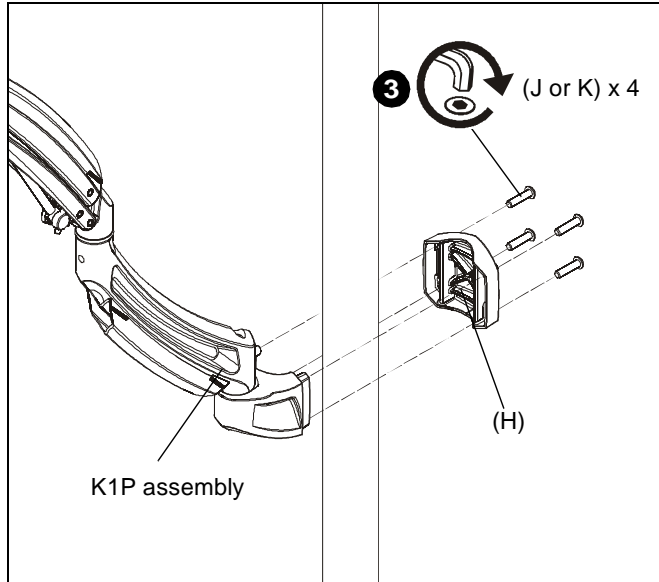

Figure 7
2. Place mount (A) against pole with clamp (H) on opposite side of pole. (See Figure 7)
3. Using 5/32" hex key (L) and appropriate length screws, loosely attach K1P assembly to pole clamp (H). If installing to 1 1/2" NPT pipe, use 1/4-20 x 1 1/2" button head cap screws (J). If installing to 1 1/2" diameter pipe, use 1/4-20 x 1" button head cap screws (K). (See Figure 7)